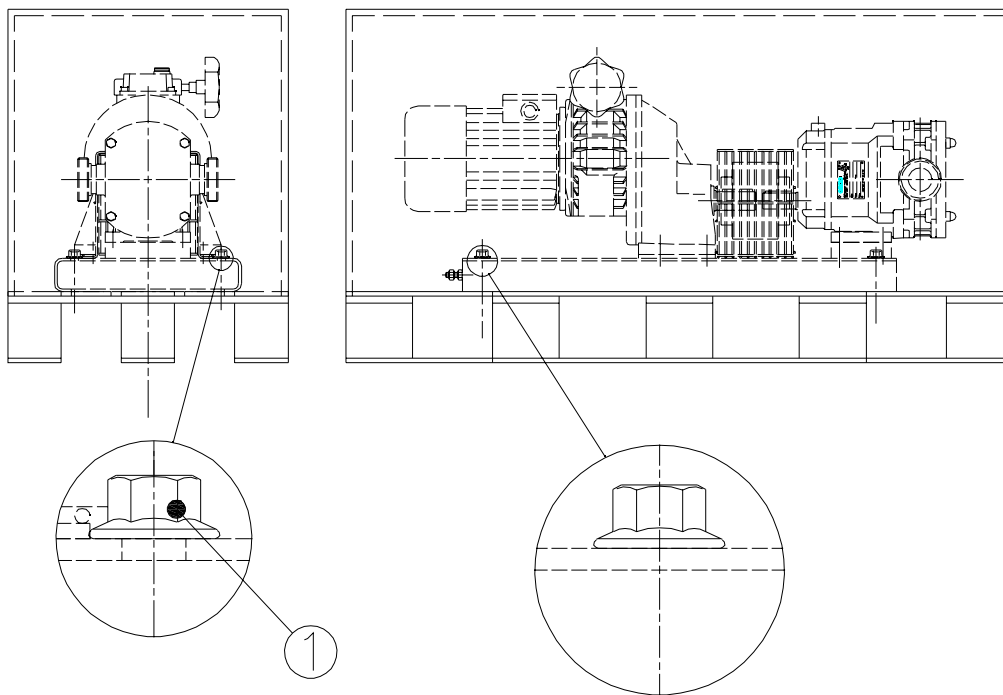

Fig. 5.1 Pump packing
The above-mentioned fixing occurs by means of four "wood" screws (pos.1 Fig. 5.1) placed in the special perforation prepared on the supporting base of the Pump unit. If the user needs to transport the Pump unit, the conditions must be restored.